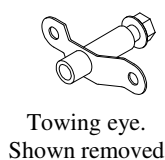

Figure 3.
- Loosen the towing eye. See Figure 3.